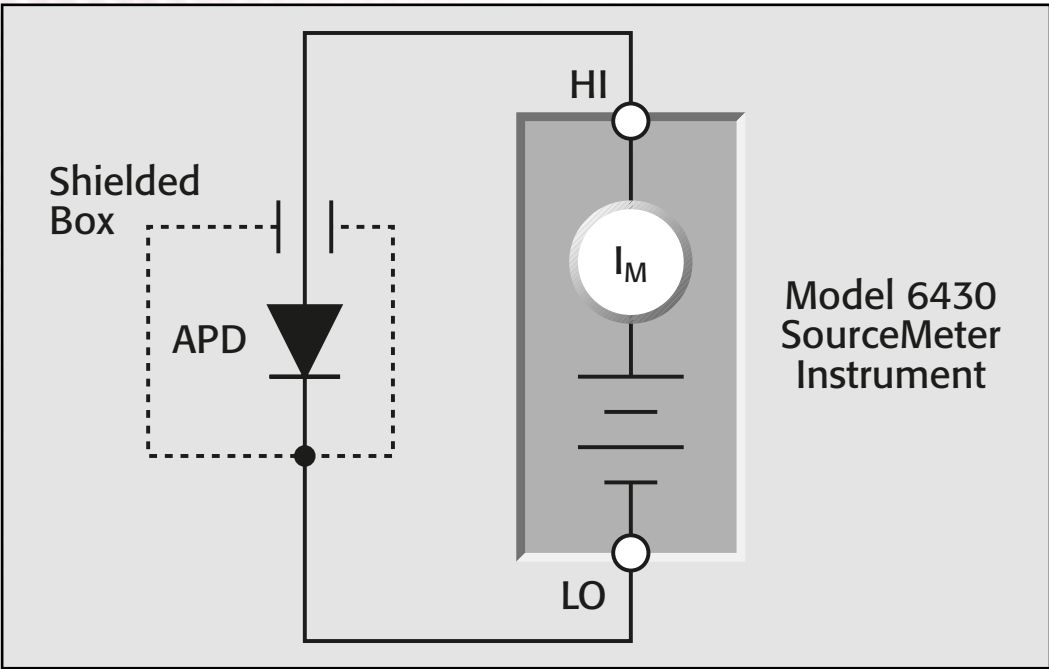

Figure 20: APD Connected to a Model 6430 Sub-Femtoamp Remote SourceMeter Instrument
**Figure 20** shows a Model 6430 connected to a photodiode. The photodiode is placed in an electrically shielded dark box. To shield the sensitive current measurements from electrostatic interference, connect the box to the LO terminal of the Model 6430.